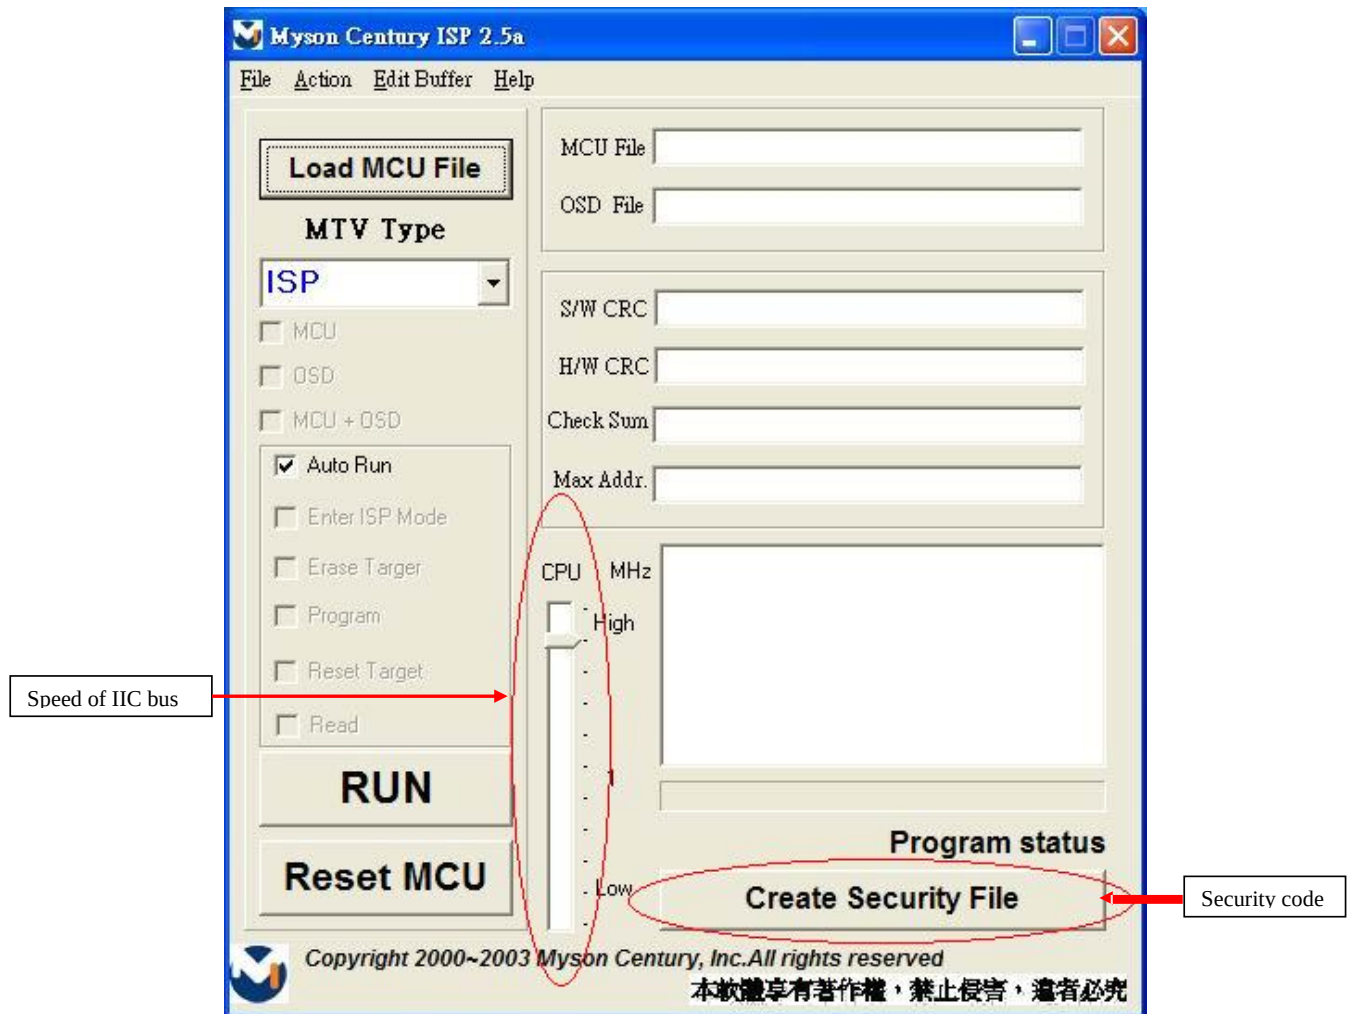

Fig. 2.4
4. Press “ Create Security File “ button to key in Security code . Adjusting bar to decrease speed of IIC bus , See Fig. 2.4 .